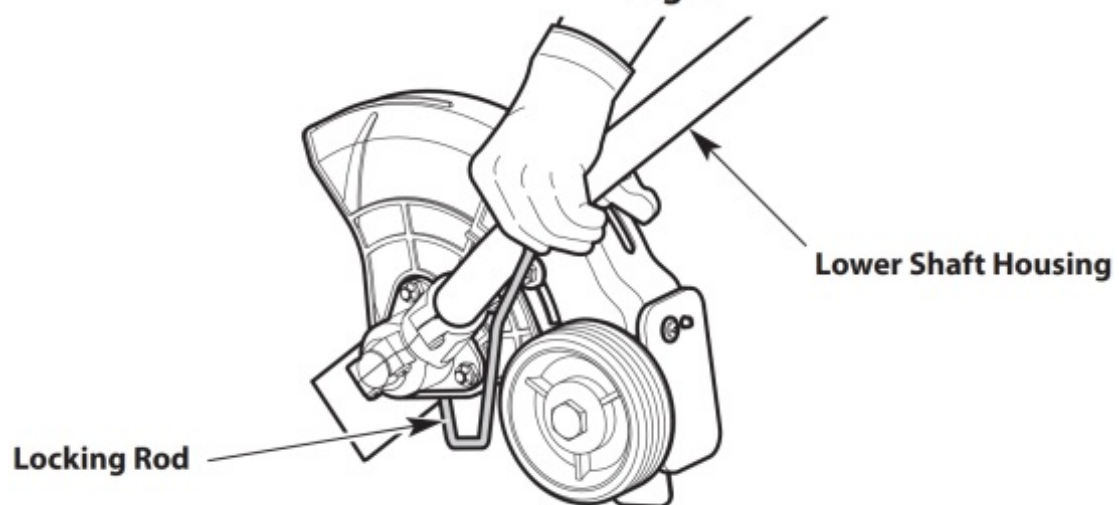

Fig. 8
2. Keep the locking rod in place by holding it next to the lower shaft housing (Fig. 8).
5. Keep the locking rod in place by holding it next to the shaft housing (Fig. 8).